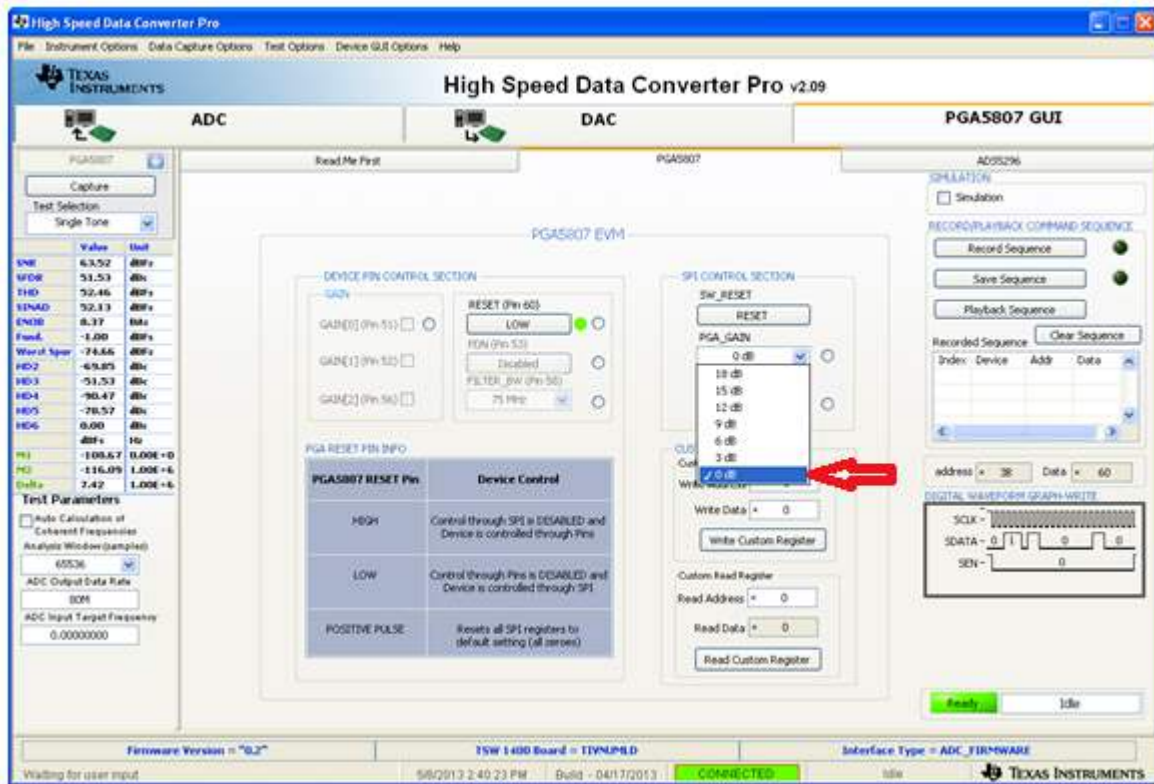

Figure 46. PGA5807 GUI Setup for PGA5807+ADS5296 SNR, THD, Gain Test 2
- Return to the *PGA5807* tab and change the *PGA\_GAIN* in the *SPI CONTROL SECTION* to *0 dB* as shown in Figure 46.